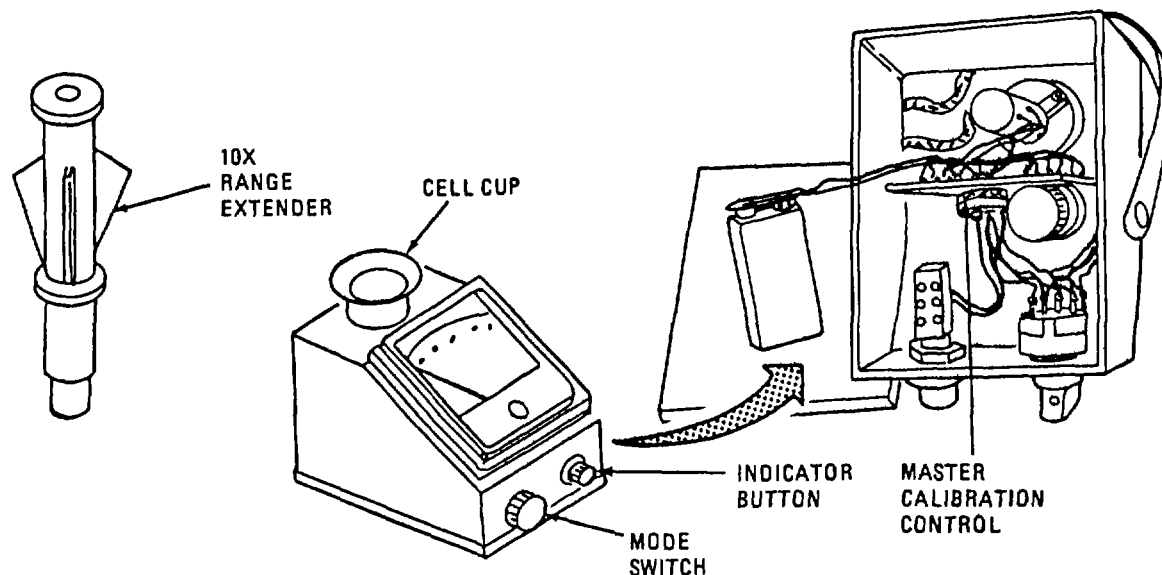

Figure 2-75. Total Dissolved Solids (TDS) Meter
- c. TDS Meter. Refer to figure 2-75. The total dissolved solids (TDS) meter is a calibrated meter that measures how much electric current can flow through a sample of water. Pure water passes almost no current.
- (1) Description of the TDS meter: